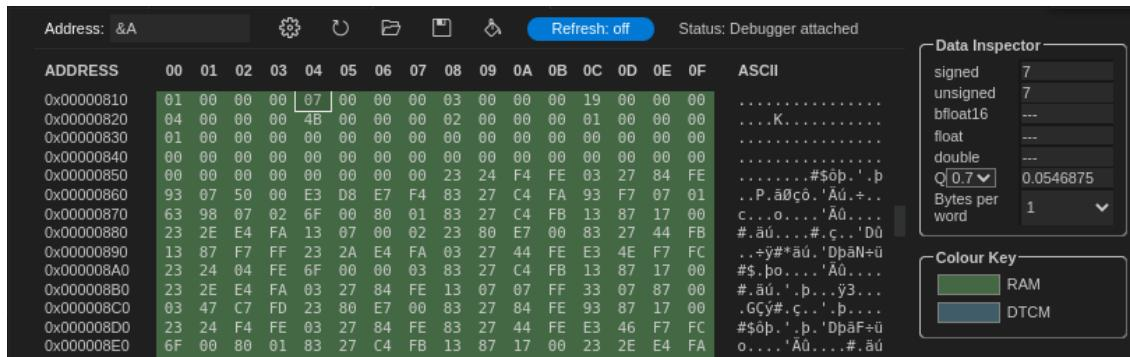

Figure 61. Memory Display for arrays A and B – Initial state.
6. Now place another breakpoint at line 18 and continue execution by clicking on  (see Figure 61). Open the Memory Display (as explained for the LedsSwitches program) and type &A (which means “address of A”) into the Start Address box. Select 0.5s refresh rate for the memory window, by dragging the slider. If you wish you can also drag the windows around to see both source and memory windows at the same time (see Figure 61). You can view the initial values of vector A and B.